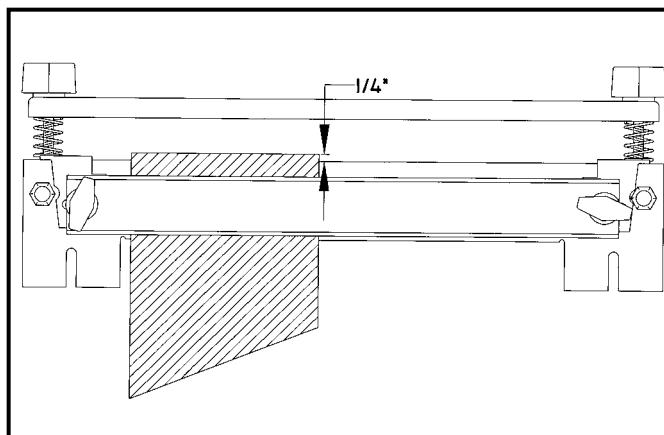

Fig. 6
1. Temporarily clamp the left side of the drawer "inside out" under front clamp bar and extending approximately  $1/4"$  above top surface of machine as shown in Fig. 6.